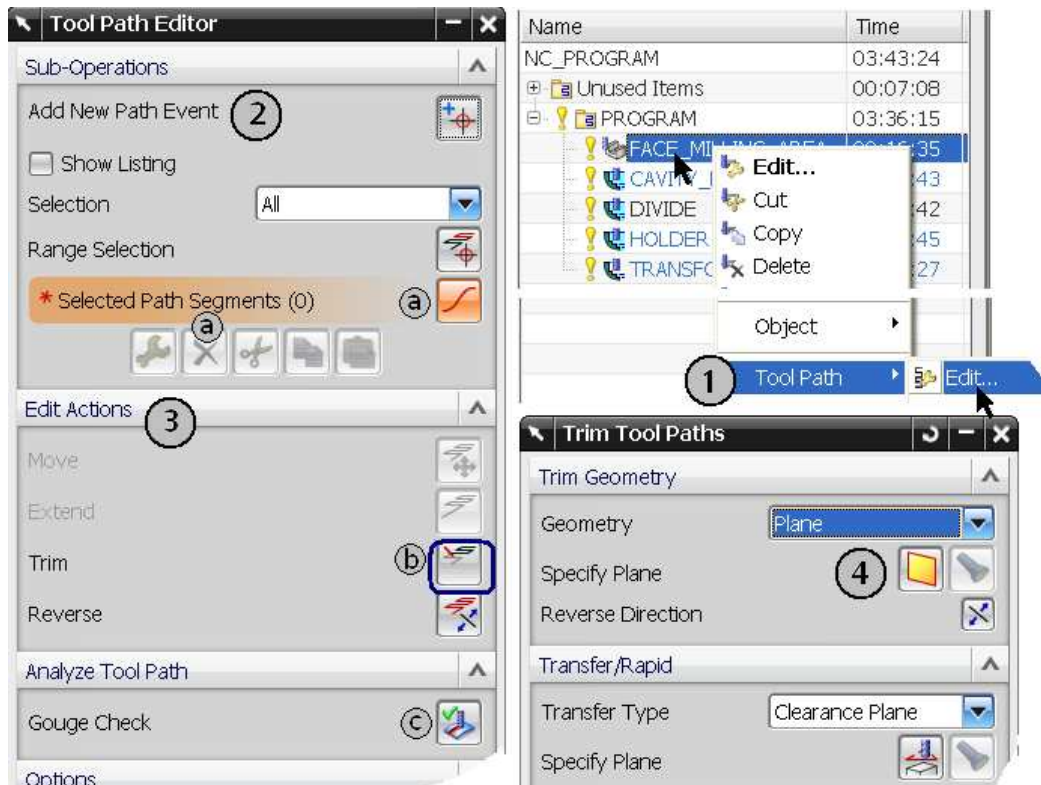

Figure 8.15. View of the Tool Path Editor window
The *Edit* Command — figure 8.15 (1) — allows a “deep” intervention in the tool path. With the available commands you can for example:
- *Add New Path Event* — figure 8.15 (2);
- *Move*, *Extend* a specified segment of the tool path or *Reverse* the direction of the whole tool path — figure 8.15 (3);
- To delete particular segments of tool paths you can use the *Delete* command — figure 8.15 (a);
- A frequently used option is the possibility to trim the path to a specified surface using the *Trim* option — as in figure 8.15 (b, 4).
You can submit introduced changes to an examination aimed at the detection of collisions with the component model — this option can be seen in figure 8.15 (c).